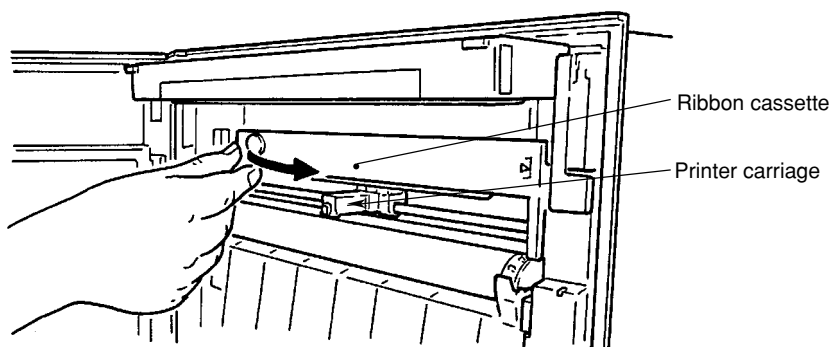

Figure 5.9
- 4 Press the lock tab to the right and use the lower left part of the cassette as a handle to pull it out of the holder. See figure 5.9.